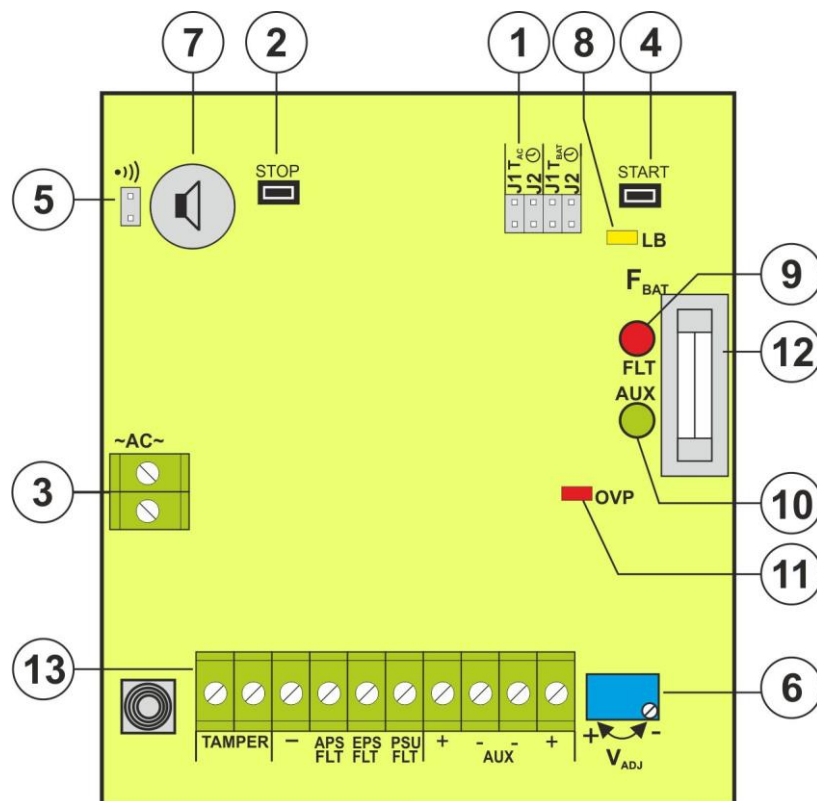

Fig. 2. The view of the PSU pcb.
Table 1. Elements of the PSU pcb (see Fig 2).
①	Isolation transformer
②	Pcb of the PSU (Tab. 1, Fig. 2)
③	TAMPER ; micro switch of tamper protection (NC)
④	L-N 230V/AC power supply connector,  PE protection connector
⑤	F_{MAIN} fuse in the battery circuit 230V, T1A / 250V
⑥	Battery connectors +BAT = red, - BAT = black